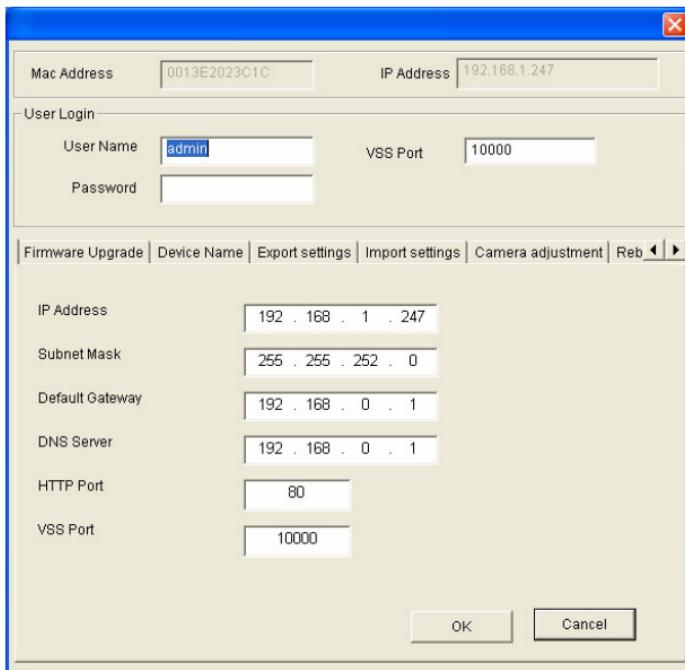

Figure 6-4
2. Double-click the camera in the list. Figure 6-4 appears.
- In Figure 6-4, click the **Import Settings** tab. This dialog box appears.